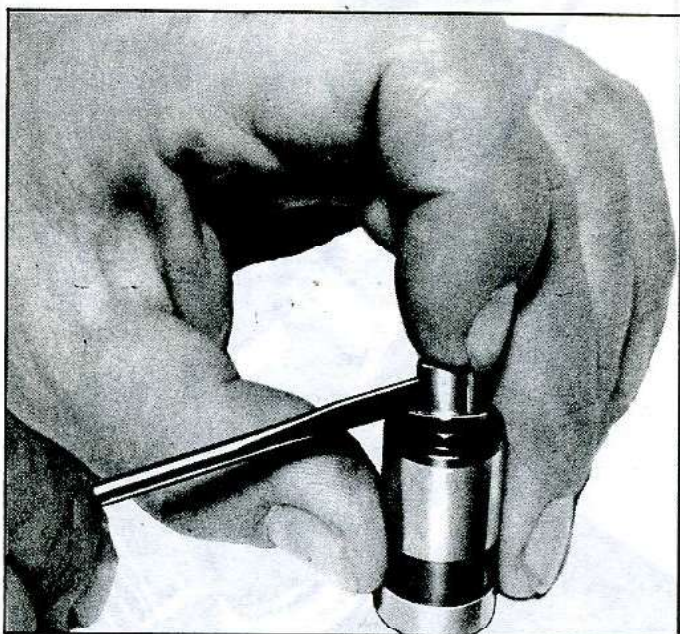

Fig. 94—Removing Ball Check Valve
4. Remove the ball check valve and spring by prying the ball retainer loose from the plunger with the blade of a small screw driver (fig. 94).